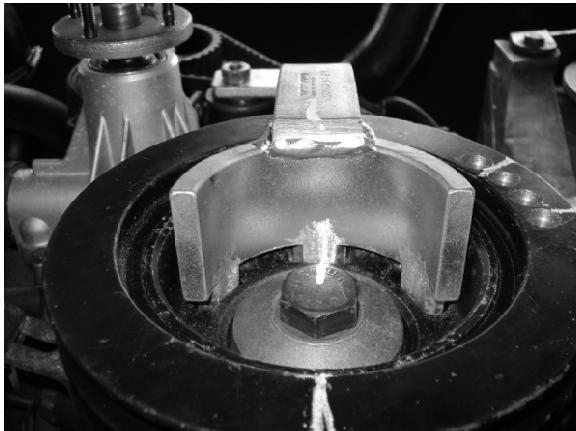
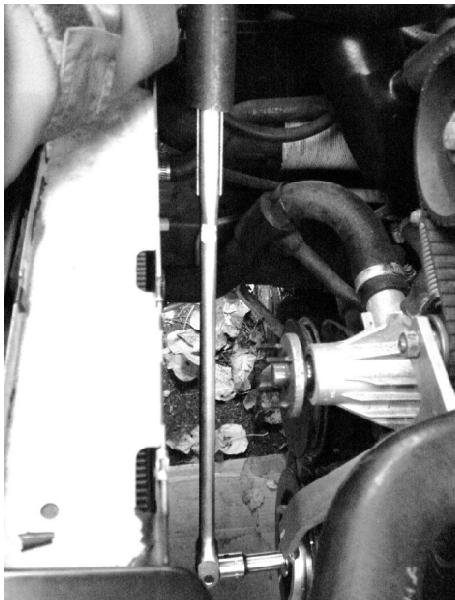
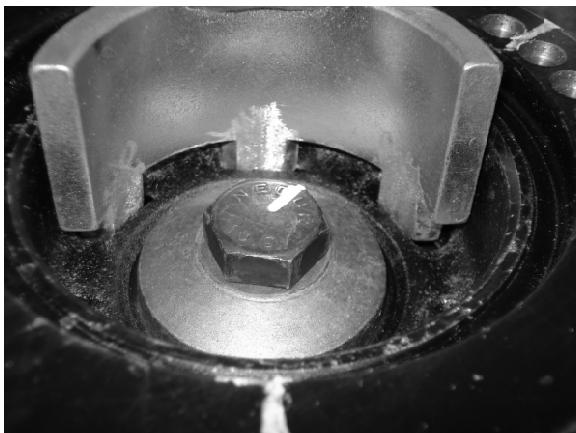

Figure 22.
Figure 23.
Figure 24.
9. After setting initial torque of 44 ft-lbs, make a vertical mark on the crankshaft bolt at 12:00 (**Figure 22**). The Bentley manual says that the correct torque means another 60 degrees of turning clockwise. I then used a torque wrench set at 150 ft-lbs and was only able to turn the bolt through ~40 degrees. Next, I used a long-handled wrench with cheater bar (**Figure 23**), but was only successful in turning the bolt an additional 8 degrees for a total of about 48 degrees (**Figure 24**). Good enough for me!